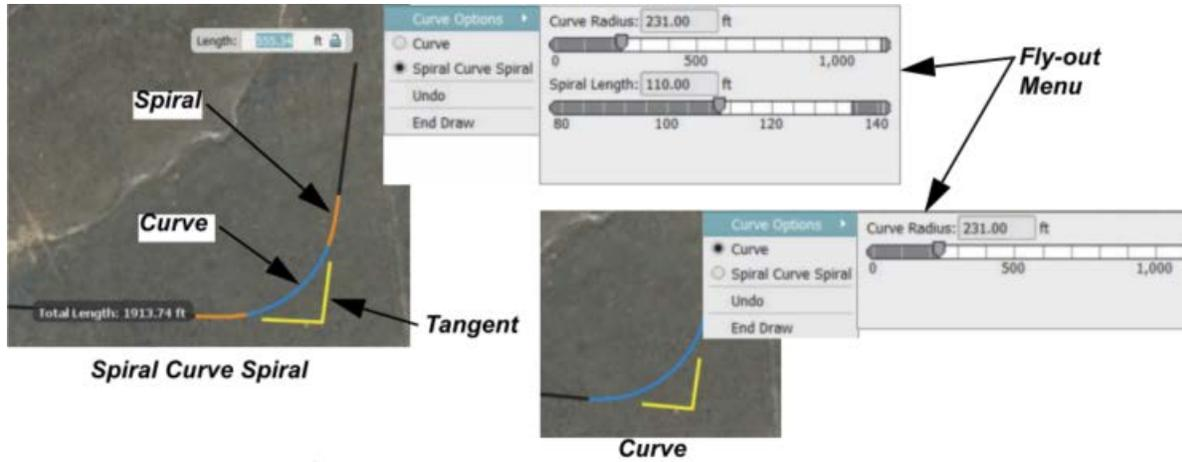

Figure 2
The design speed property of a roadway sets the minimum and maximum allowed curve radius and spiral lengths for a given point of intersection (PI) along a roadway. When you use the Highway Roads command, the default curve type is set to Spiral Curve Spiral. For all other design road commands (i.e., arterial, collector, or local), the default curve type is set to Curve. To change which curve type to use at a PI, right-click on the curve to display a fly-out menu, as shown in Figure 2. As you set the PI's, tangent
lines (which project all of the way to the actual point of intersection) display in yellow, curves display in blue, and spirals display in orange, as shown in Figure 2.